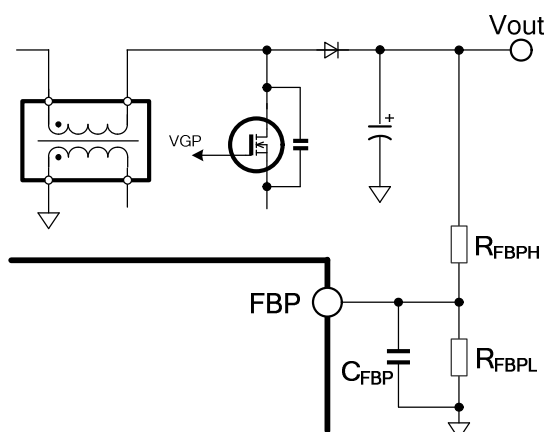

Fig.25 FBP resistance divider
PFC output voltage is determined by resistance divider (Refer to **Fig. 25**) and is obtained from formula (5).